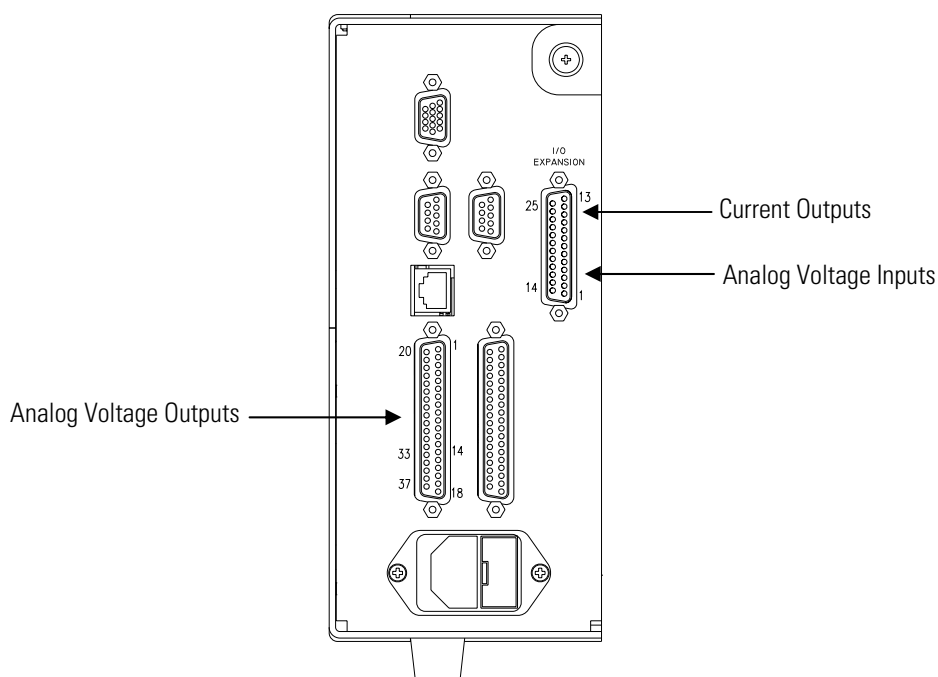

Figure 7–9. Rear Panel Analog Input and Output Pins
1. Connect a meter to the channel to be tested. Figure 7–9 shows the analog output pins and Table 7–4 identifies the associated channels.
1. Connect a meter to the channel to be adjusted and set to voltage or current as appropriate. Figure 7–9 shows the analog output pins and Table 7–4 identifies the associated channels.